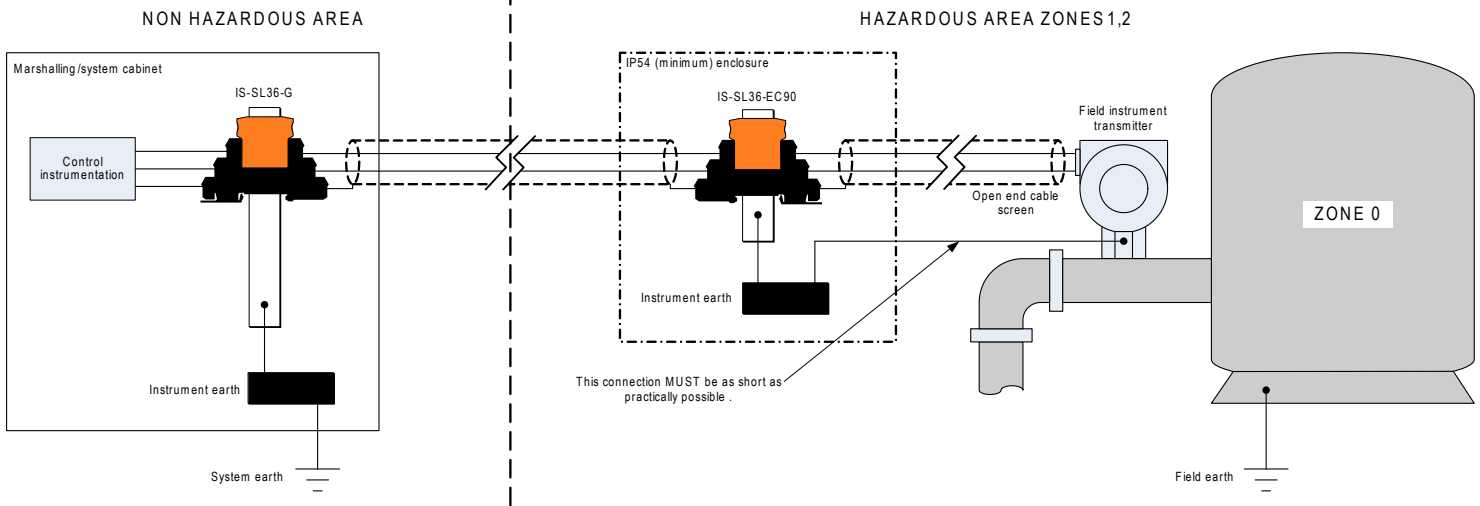

Figure 6: Typical hazardous area installation where field instrument body is earthed through pipework.
- 5.2 Figure 6 shows a typical hazardous area installation where the body of the field instrument is earthed through the metallic pipework. In this instance it is important to earth the Novaris slimline signal line protector to the instrument body. This connection **MUST** be as short as practically possible.